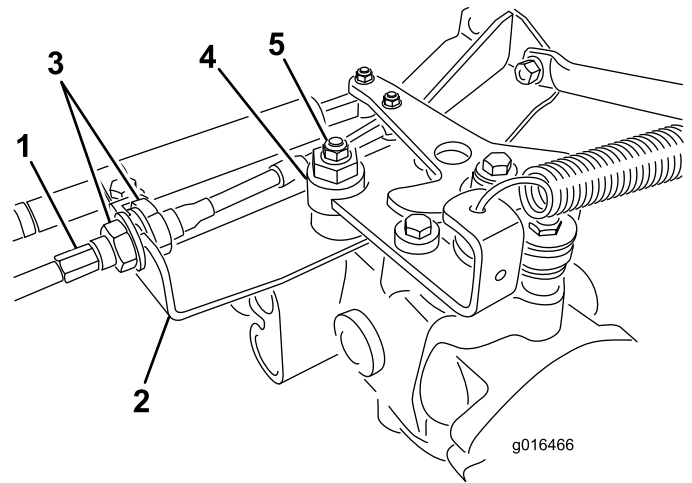

Figure 41
- A. Loosen both jam nuts securing the traction-control cable to the bulkhead on the hydrostat (Figure 41). Ensure that the jam nuts are loosened equally and sufficiently to allow adjustment.
Note: Loosen the nut securing the eccentric to the top of the hydrostat (Figure 41).
- E. When the wheel stops rotating, tighten the nut locking the eccentric and the adjustment (Figure 41).
- G. From each side of the bulkhead, tighten the locknuts evenly, securing the traction cable to the bulkhead (Figure 41). Do not twist the cable.